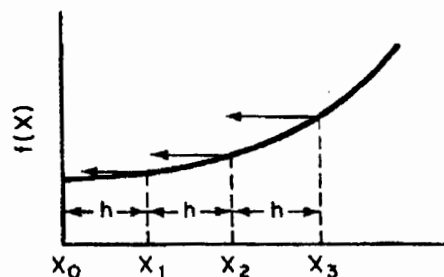

Figure A-4 Simpson's four-point rule illustration.
3. *Simpson's three-eighths rule* (four-point) (Figure A-4). An improved version of Simpson's one-third rule can be made by applying *Simpson's second rule*: